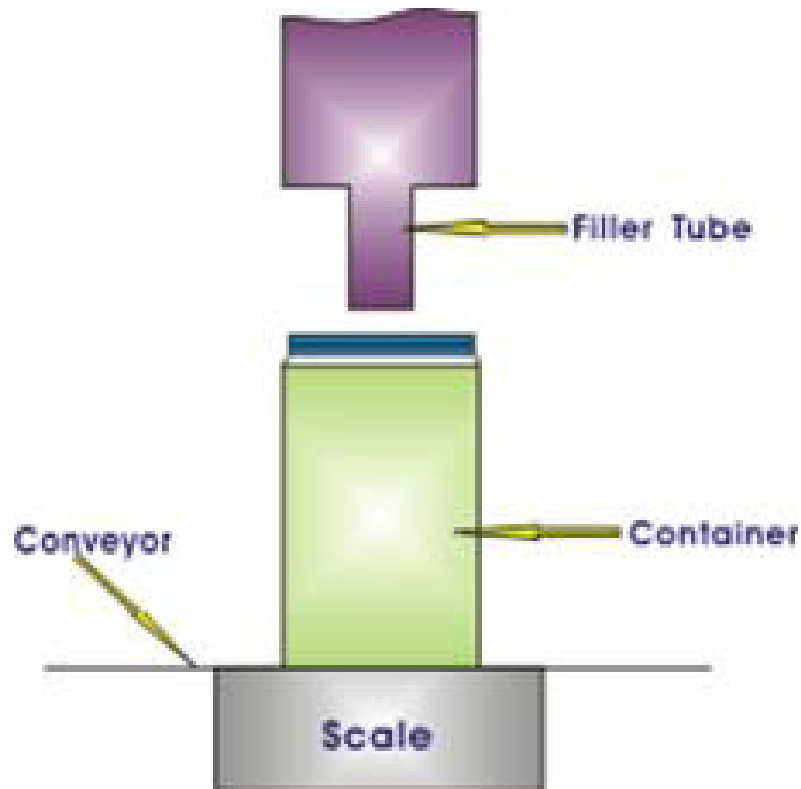

Figure 20.29 Gross weight filler
- In gross weight filling (Figure 20.29), the product is weighed inside the container as it is filled, and the scale operates a signaling device that operates the filler.